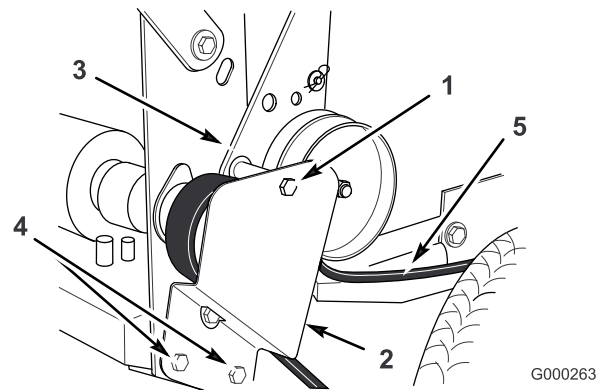

Figure 42
1. Remove the top capscrew securing idler support and idler bracket to rear frame (Figure 42).
2. Loosen bottom two mounting screws enough to allow belt to pass between drive pulley and idler support (Figure 42).
5. Install the top capscrew securing the idler support and idler bracket to the rear frame (Figure 42).
6. Tighten the bottom two mounting screws enough to allow the belt to pass between the drive pulley and idler support (Figure 42).